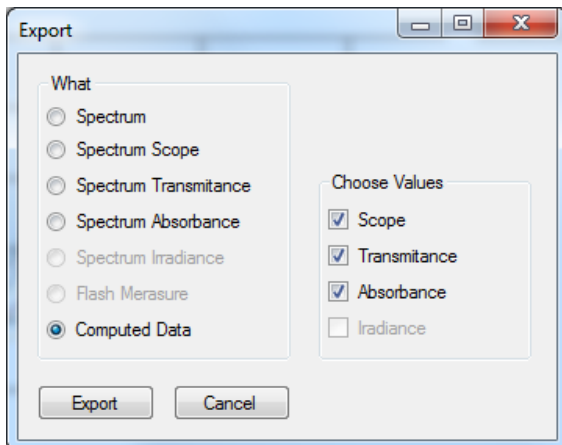

Fig. 34 Export - Computed data selection and choosing of exported values.
- Computed Data** (Fig. 34) - export of the reflectance indices for Scope, Transmittance or Absorbance of all of the measurements, except OD values.